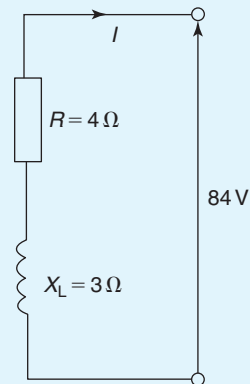

Figure 15.26
16. The amplitude of the current  $I$  flowing in the circuit of Fig. 15.26 is: